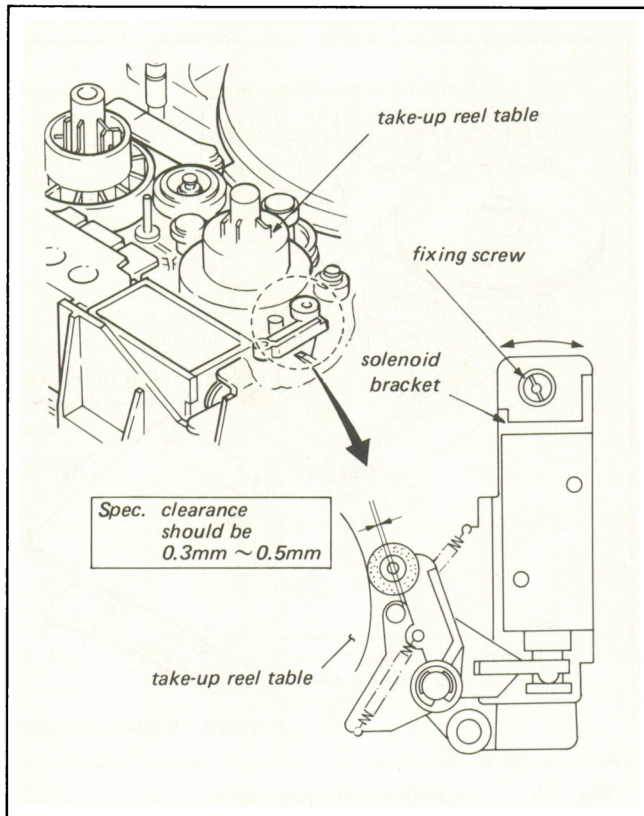

Fig. 7-6. Take-up pause brake check (PAUSE mode with a cassette)
3. Check that there is a clearance shown in Fig. 7-6 in the take-up pause brake. If not, adjust the position of the solenoid bracket.